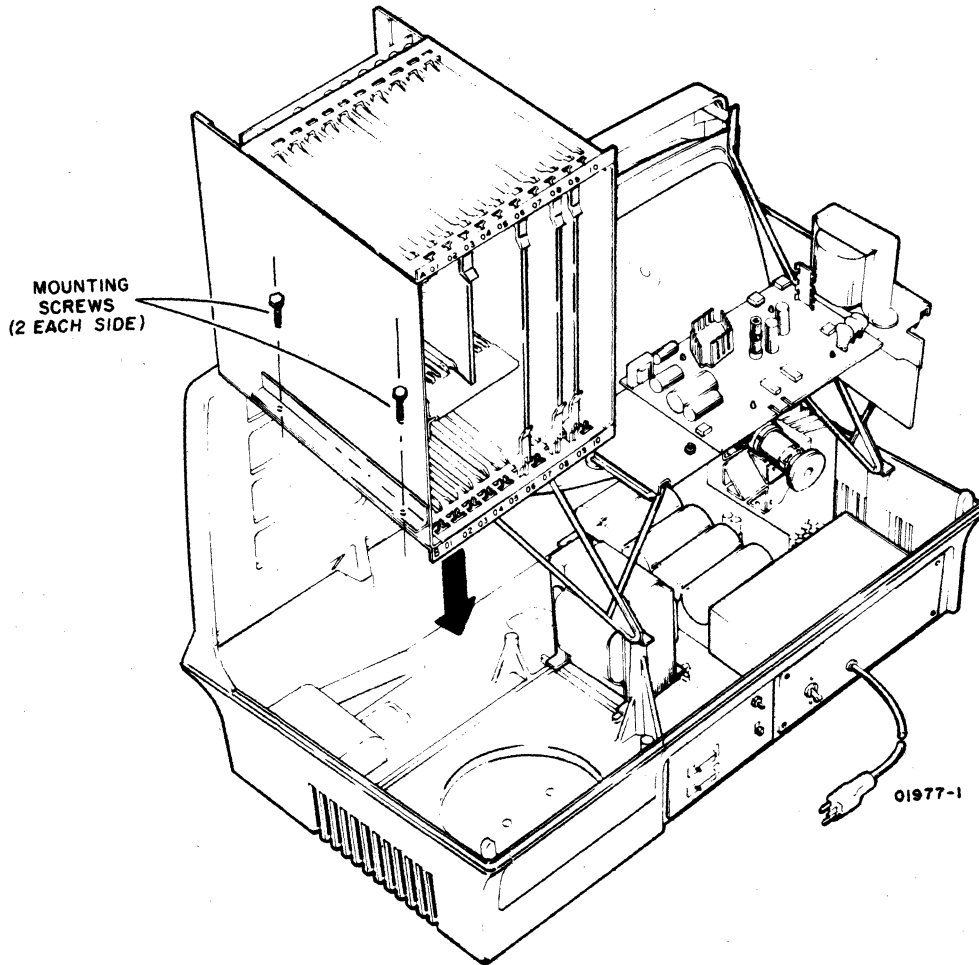

Figure CRT9. Logic Module Card Cage Removal
- 2) Remove four mounting screws, using 5/16-inch socket and 19-inch by 1/4-inch drive extension (figure CRT9).
- 3) Lift card cage carefully upward and to rear sufficiently to access connectors mounted on bezel side of card cage (figure CRT59). When cage is back far enough, label connectors as required to ensure proper reconnection. Disconnect cables (as outlined following) and remove card cage (figure CRT9).